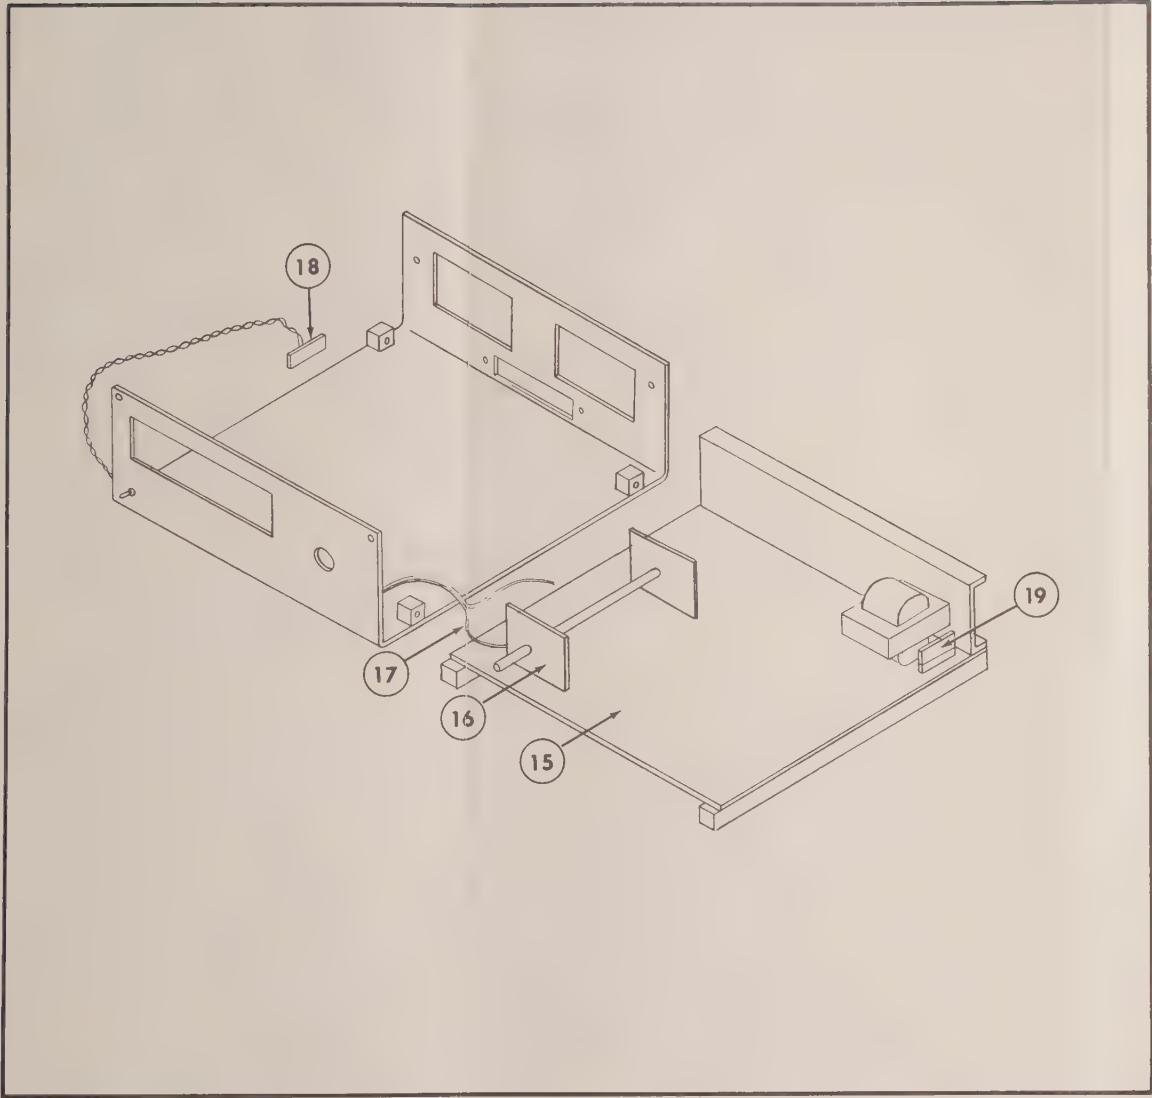

FIGURE 12. Chassis Disassembly.
4. Remove connector J906 which is wired to the front panel Power ON switch as shown in Figure 12. Replace connector with Shorting Adapter 24789A (from Model 1603 Extender Card Kit) which will apply power to the instrument. Caution! To turn off power to the instrument remove the Shorting Adapter.
5. Separate the circuit board assembly from the chassis as shown in Figure 12.